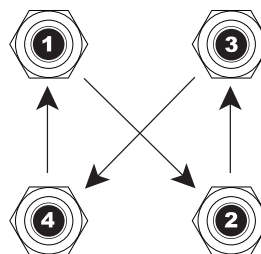

Fig. 2
- Finger tighten the lug nuts in a cross sequence pattern (Ref. Fig. 2).